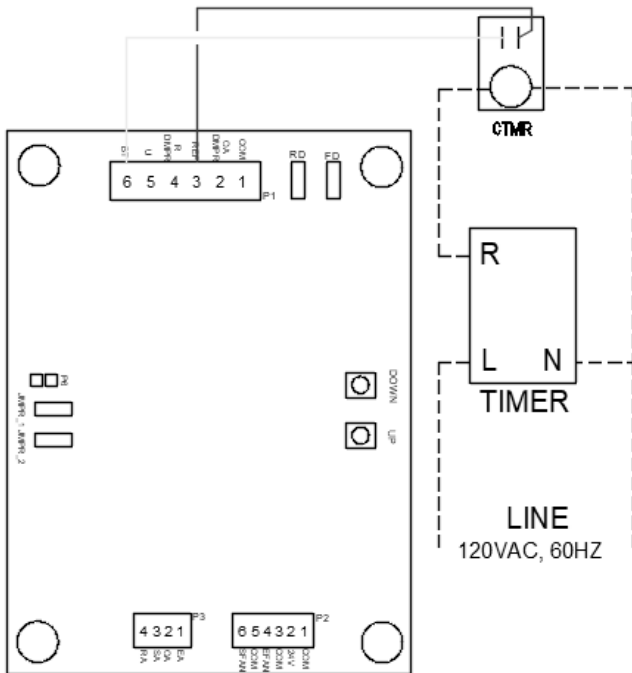

FIGURE 28 - Version 2 (120V Digital Timer Connection)
6. **FIGURE 28 - Version 2 (120V Digital Timer Connection).**